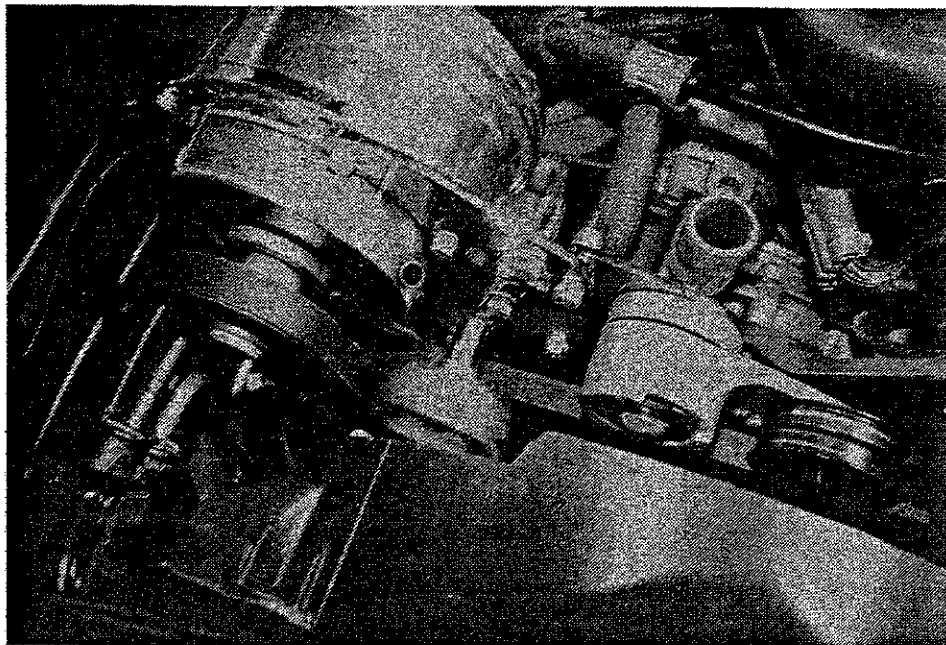

FIGURE 10
14. Install the complete Belt Tensioner Plate (P/N 48067) to the Mounting Bracket and upper Water Pump stud, as shown in Figure 10. Secure with 3/8-16 x 1-1/4" Bolts (P/N 102148), 3/8 Washers (P/N 100375), and 3/8-16 nut - on Water Pump stud - (P/N 38565).
20. Install Supercharger Drive Belt (P/N 48057) and Idler Pulley Kit (P/N 10169) as shown in Figure 10.